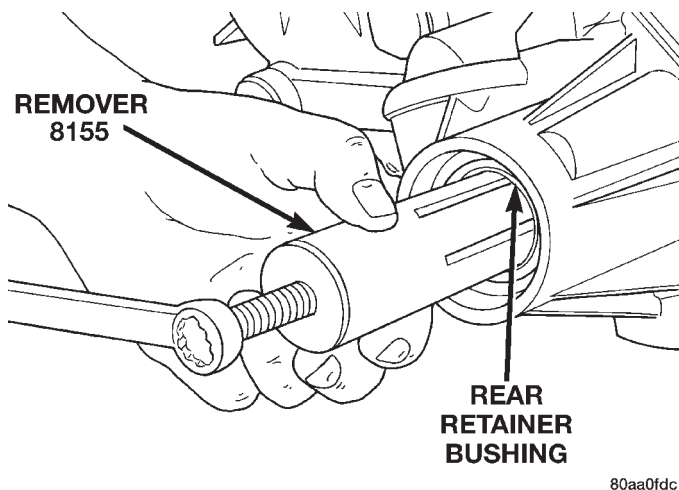

Fig. 9 Rear Retainer Bushing Removal
- (1) Raise and support vehicle.
- (2) Remove rear propeller shaft. Refer to Group 3, Differential and Driveline, for proper procedure.
- (3) Using a suitable pry tool or slide-hammer mounted screw, remove the extension housing seal.
- (4) Using Remover 8155, remove bushing from extension housing (Fig. 9).